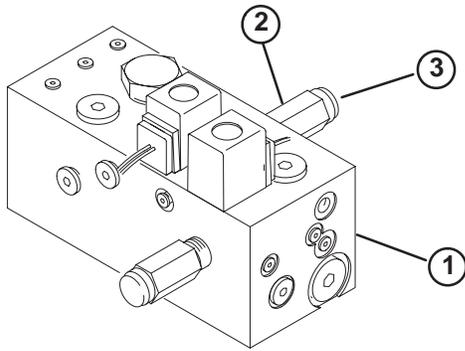

Figure 9
1. On rear side of manifold, remove cap from the relief valve with an allen wrench (Fig. 9).